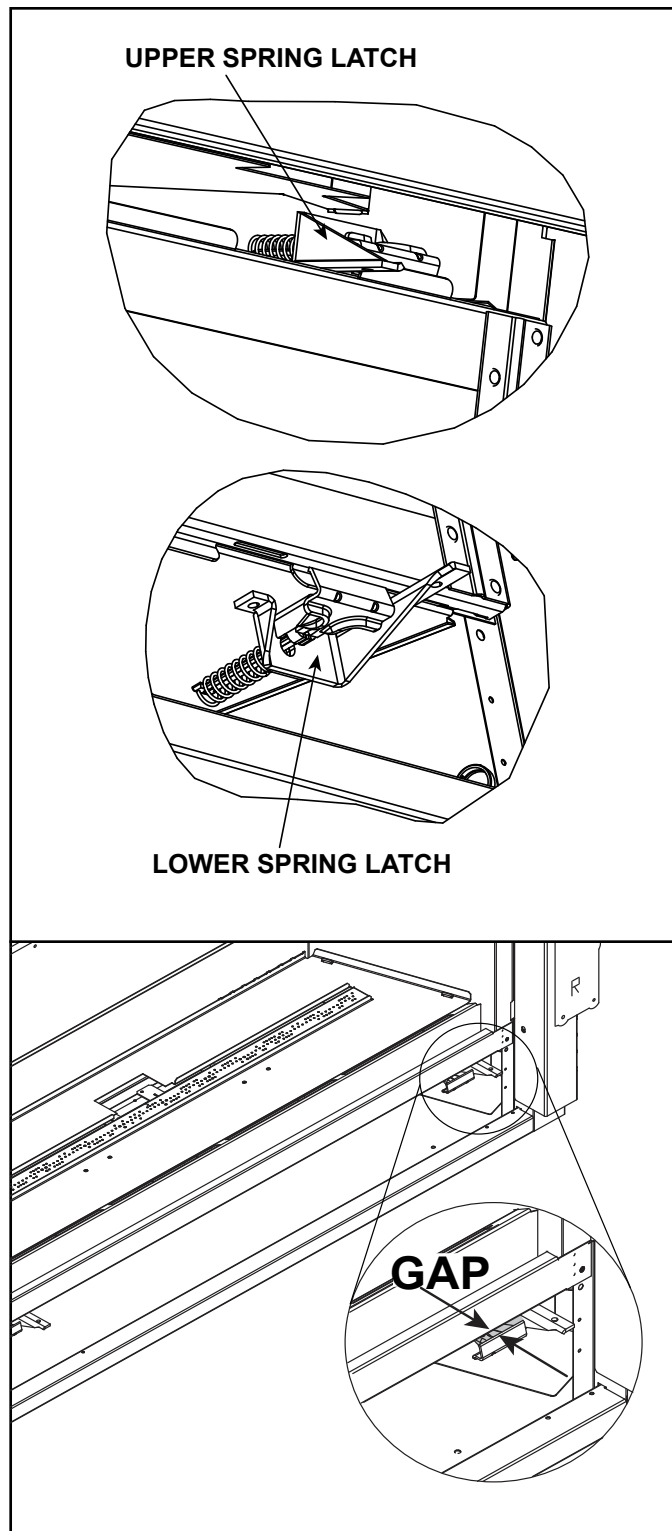

Figure 11.1 Fixed Glass Assembly
2. The glass assembly has two upper spring latches and two lower spring latches. See Figure 11.1. Locate the two spring latches that are on the upper left and right of the fireplace.
The bottom glass latches have been designed to create a small gap between the glass clip and the face of the appliance. See Figure 11.1.